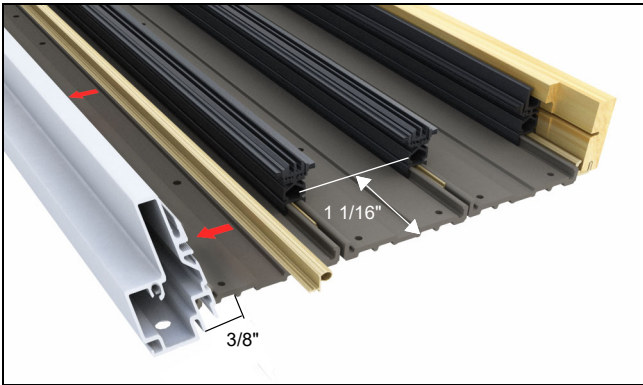

Figure 28
10. Insert bulb weather strip into kerf, adjacent to pile weather strip. See figure 28.